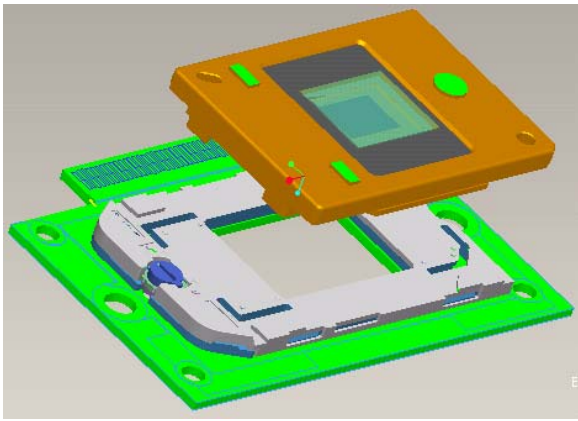

Fig. 8-3
8.2. Alight keying and Assemble DMD to Chip B/D (Fig. 8-3)